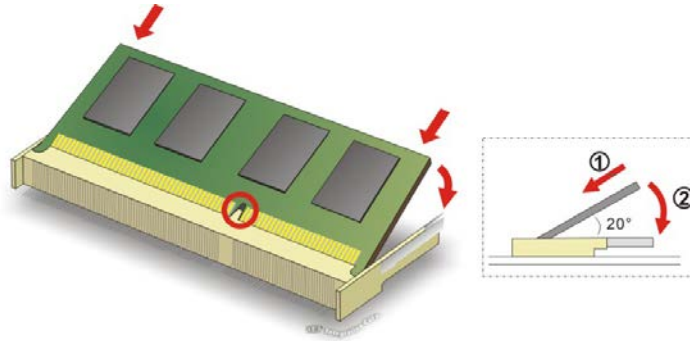

Figure 5-3: SO-DIMM Installation
Step 5: Align the new SO-DIMM with the socket. The SO-DIMM must be oriented in such a way that the notch in the middle of the SO-DIMM must be aligned with the plastic bridge in the socket (**Figure 5-3**).
Step 6: Insert the SO-DIMM. Push the SO-DIMM chip into the socket at an angle (Figure 5-3).
Step 7: Open the SO-DIMM socket arms. Gently pull the arms of the SO-DIMM socket out and push the rear of the SO-DIMM down (See **Figure 5-3**).